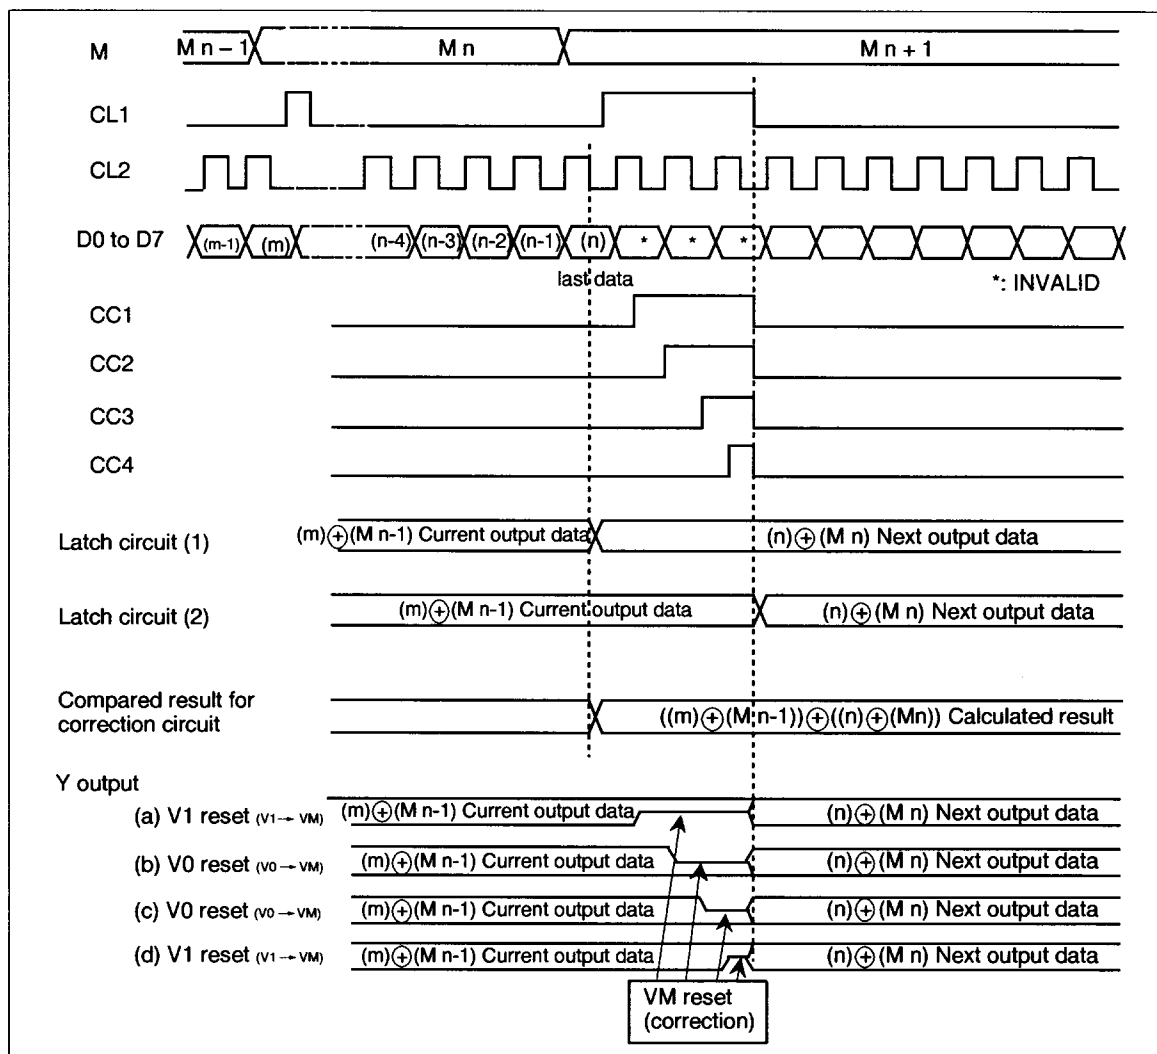

Figure 12 Compared Result for Correction Circuit
The correction circuit compares the present output data (latch circuit (2)) and the next output data (latch circuit (1)). Depending on the compared result, the circuit resets the high width of CC3 to the VM for the output without a data change if the data is the non-selected output ((c) in figure 12). The circuit resets the high width of CC4 to the VM if the data is the selected output ((d) in figure 12). CC3 and CC4 are input after the last valid data is transferred. CC1 forcibly resets the V1 output to VM for the high width ((a) in figure 12). CC2 forcibly resets the V0 output to VM for the high width ((b) in figure 12). Therefore, shadowing caused by waveform distortion is corrected with CC3 or CC4 (non-selected or selected), and shadowing caused by crosstalk is corrected with CC1 or CC2 (in the V0 or V1 direction).